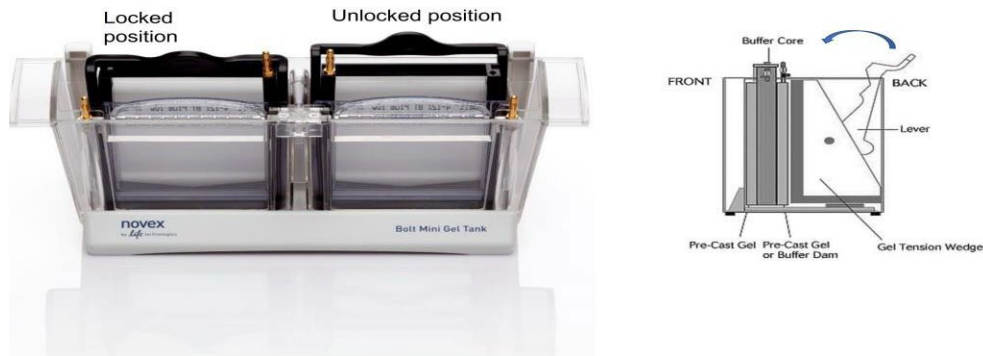

Figure 2. Invitrogen Mini Gel Tank.
- Lock the gel (see Figure 2).